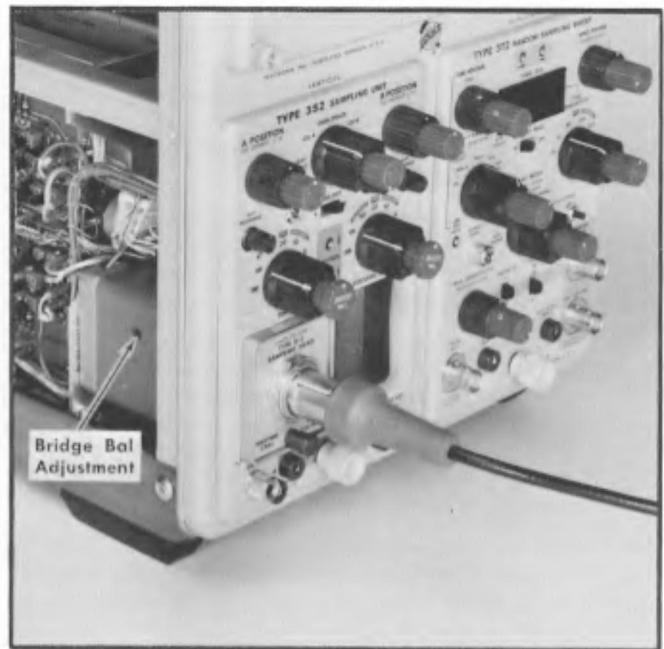

Fig. 2-4. Bridge Bal Location.
17. Switch the Type 3S2 Units/Div control throughout its range, adjusting the Type S-2 Bridge Bal control for a trace shift of not over one division as the Units/Div control is switched from one end to the other. See Fig. 2-4 for the location of the Bridge Bal control. This adjustment must be made whenever the Type S-2 is shifted from one sampling unit to another, or operated on a sampling head extender cable.